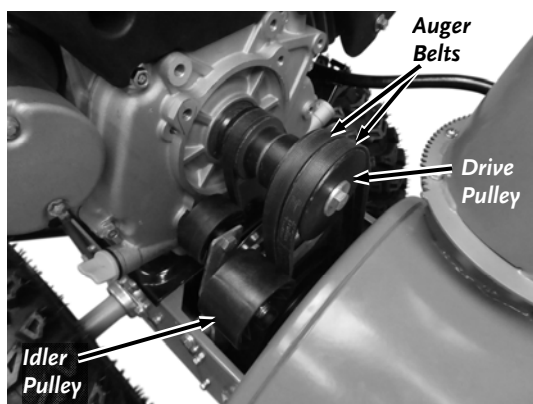

Figure 53
8. Roll the front Auger Belt off the front of the Engine Drive Pulley and the rear Auger Belt off the back of the Engine Drive Pulley (**Figure 53**).